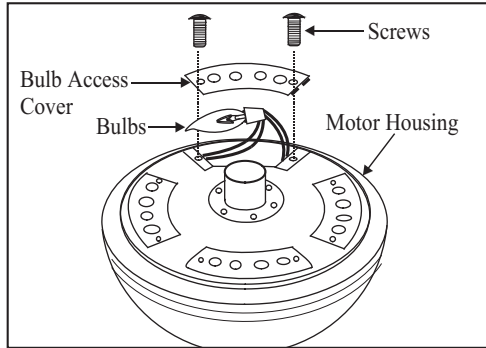

Figure 20
1. Remove the 2 screws from the lamp holder stand and take the stand off from the top decorative housing as shown in Figure 20.